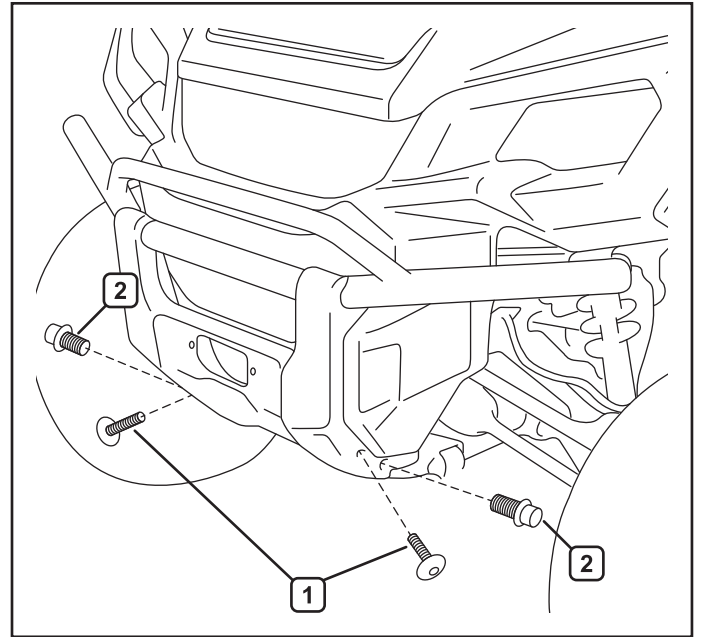

Figure 1.
1. Remove front bumper by removing eight bolts (1), (2) and (3) as shown in figures 1 and 2.